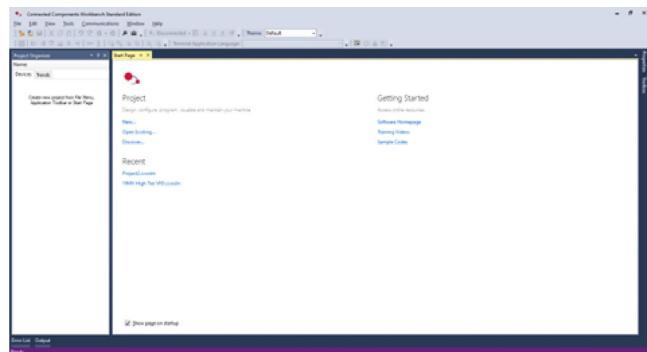

Fig. 27 — CCW Discover Device
4. Once the communication driver is set up, select Discover in CCW and select the appropriate device. See Fig. 27 and 28.